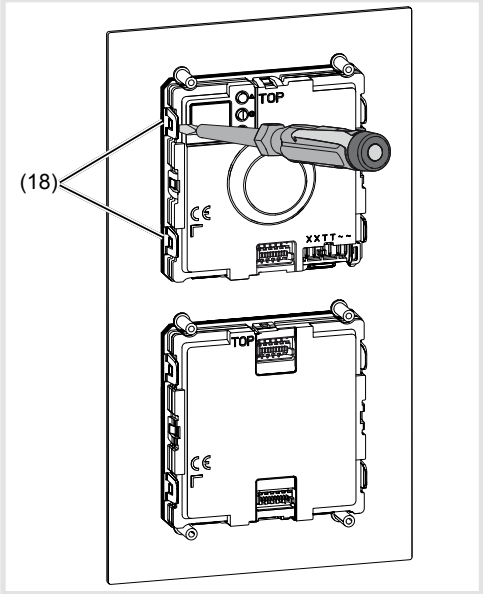

Figure 17: Unlatching module
- To remove the call push-button module, unlatch the side retaining brackets (18) of the module mounting by carefully lifting up with a screwdriver (Figure 17).